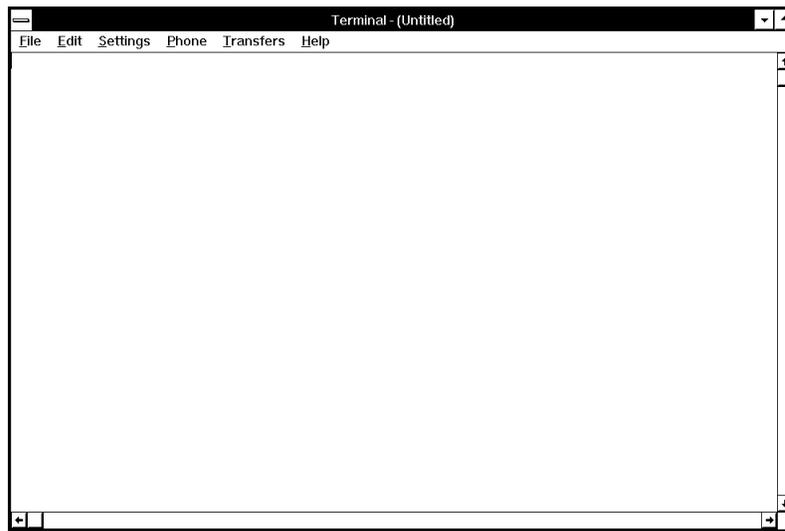

Figure 6-10. Terminal Window
1. From the Windows Program Manager, open the Accessories group and choose the Terminal icon to display the Terminal window (Figure 6-10).